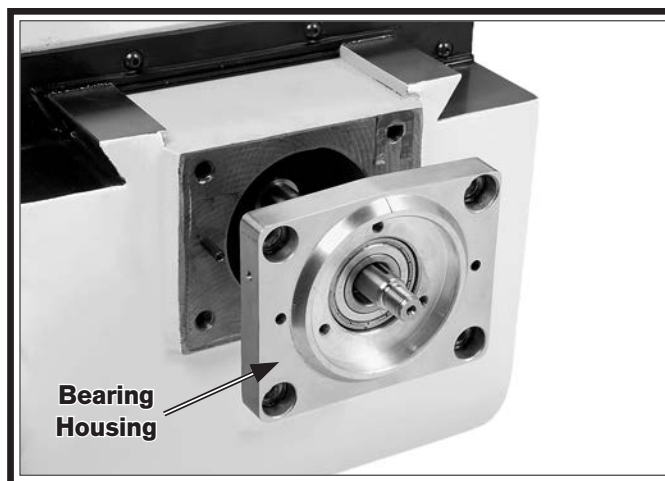

Figure 91. Example of removing bearing housing from cross leadscrew.
4. Remove (4) cap screws from bearing housing, then slide it off leadscrew (see **Figure 91**).